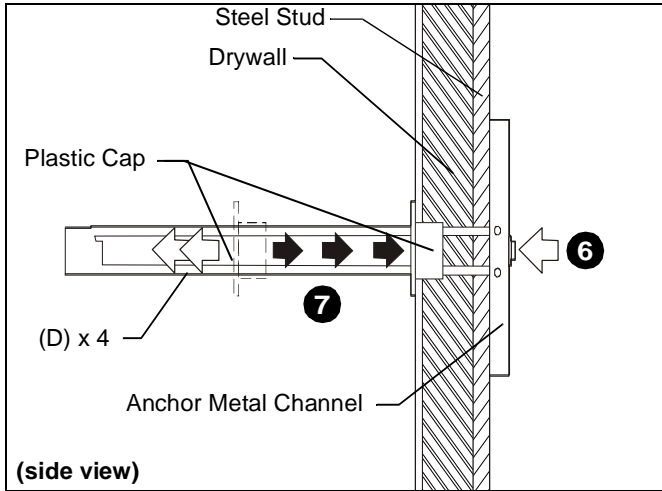

Figure 7
6. Holding plastic straps on anchor (D), pull anchor away from wall until channel rests flush behind wall making sure anchor channel is positioned vertically on stud. (See Figure 7)
7. Slide plastic cap on anchor (D) towards wall until flange of cap is flush with wall. (See Figure 7)